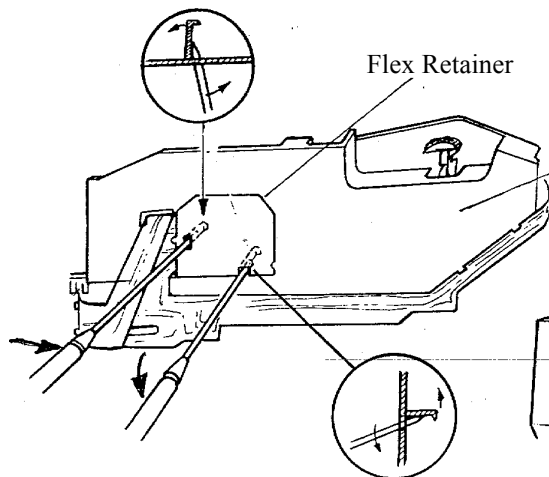

Figure 4-13c
- d. To remove Flex Retainer from Cover (see Figure 4-13c), insert small screwdriver in right-hand hole and tilt handle down so tip goes upward. Then insert in left hole and move handle to right. Lift out Flex Retainer.